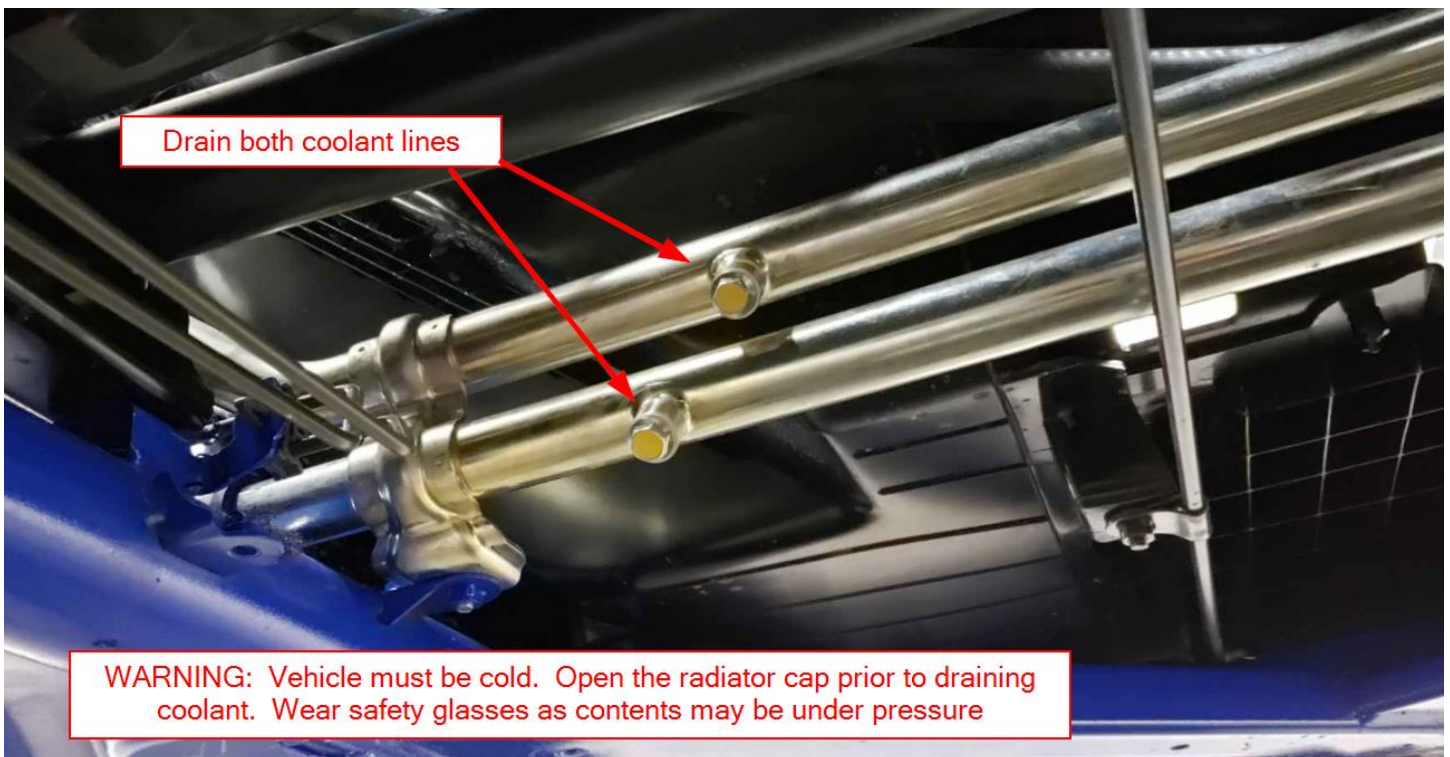

Figure 4
- i. Open the radiator cap and then locate the two drain ports welded to the aluminum coolant lines under the vehicle, see Figure 4. Use a 10mm socket to drain the coolant from each port into a clean container to reuse later. Warning: Make sure the vehicle is cool and wear safety equipment as the fluid can come out of the port with force. Once drained, insert the screws and tighten.